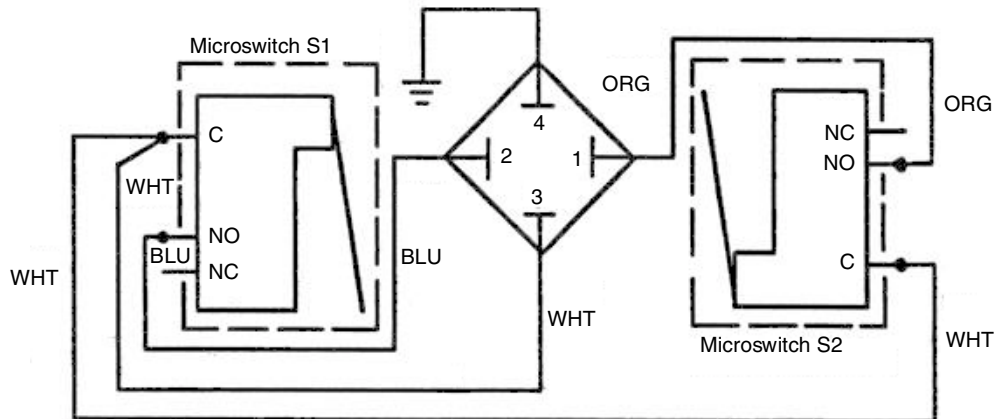

Figure 1-10 Wiring Diagram – Position Indicator
2. Unscrew the mounting screws (13) and remove the Microswitch (11).
3. Reassemble a new switch on the bracket (16) as shown in Figure 1-9 on page 1-19. Note the position of the switches on the bracket and wire the microswitches as shown in Figure 1-10 on page 1-23.
- Wire terminal contacts as detailed in Figure 1-10.
- Connect an Ohmmeter to pin 1 (orange wire, Figure 1-10) and pin S (white wire) of switch S2 connector, then set the meter to measure resistance (Ohms).